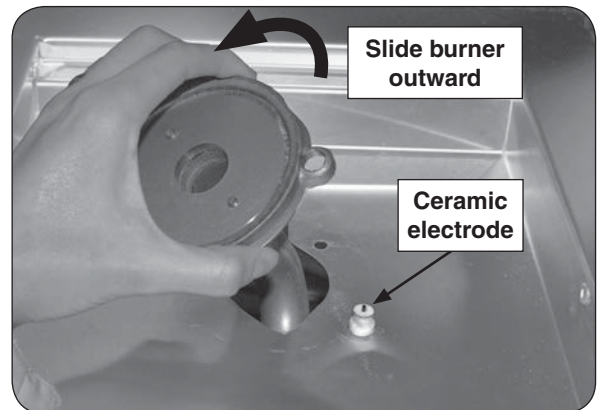

Fig. 32-2 Remove burner
5. Carefully lift the burner up and out, clearing the ceramic electrode (see Fig. 32-2), and pulling the burner tube away from the orifice located on the left side of the unit.